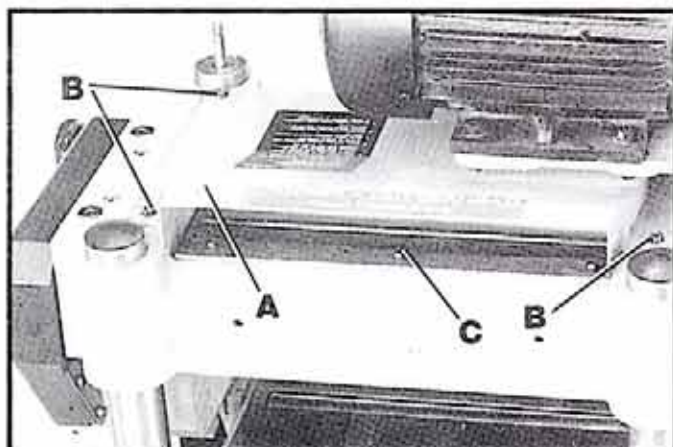

Fig. 13
1. Fasten the top cover and dust chute (A) Fig. 13, to the top of the planer, as shown, using the three screws (B) supplied. **IMPORTANT:** The dust chute opening (C) must point to the rear as shown.